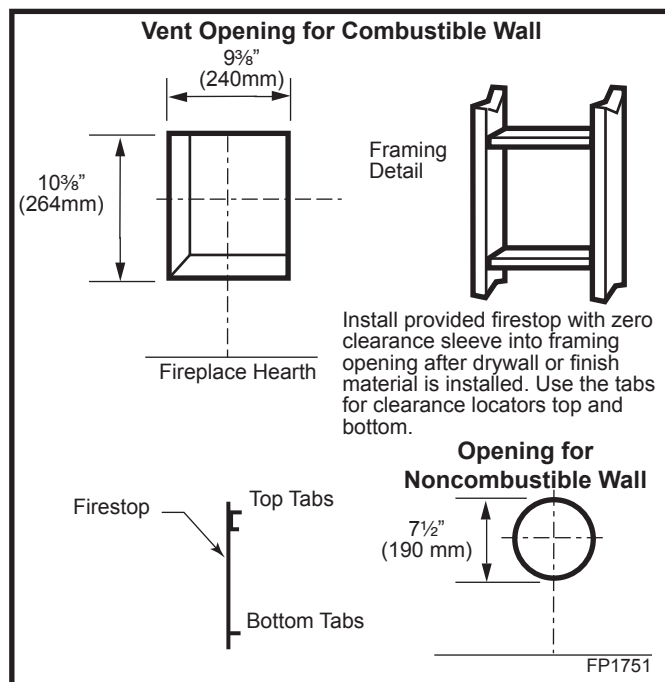

Fig. 17 Locate vent opening on wall.
**Combustible Walls** (Fig. 17): Cut a 10 $\frac{1}{8}$ " H x 9 $\frac{5}{8}$ " W (264 x 240 mm) hole through the exterior wall and frame as shown.
**Noncombustible Walls** (Fig. 17): Hole opening must be 7 $\frac{1}{2}$ " (190 mm) in diameter.
1. Establish vent hole through the wall. (Fig. 17)